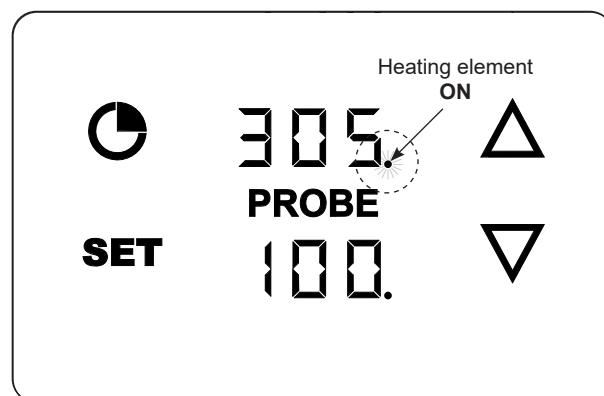

Fig. 33-2 Heating element ON
- The **dot** next to the grilling temp. indicates that the heating element is **on**. The **dot** turns on and off intermittently as the element maintains the set temp. See Fig. 33-2.